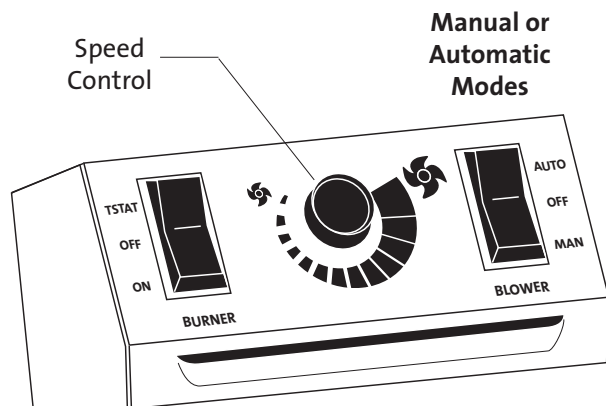

Figure 36. Blower Controls
8. **Reinstall the Logset.** Refer to the Owner's Manual if necessary. BE CERTAIN THAT NO EMBER STONES ARE BLOCKING THE PILOT ASSEMBLY OPENING. Refer to fig. 36.